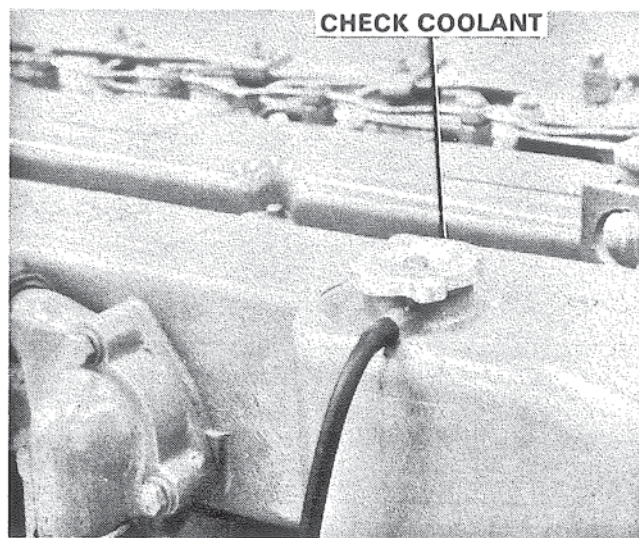

Figure 8. Fresh Water Cooling.
3. Coolant. Coolant level should be checked daily with the engine cold and maintained between fluid level lines when the overflow bottle is used. Figure 8.